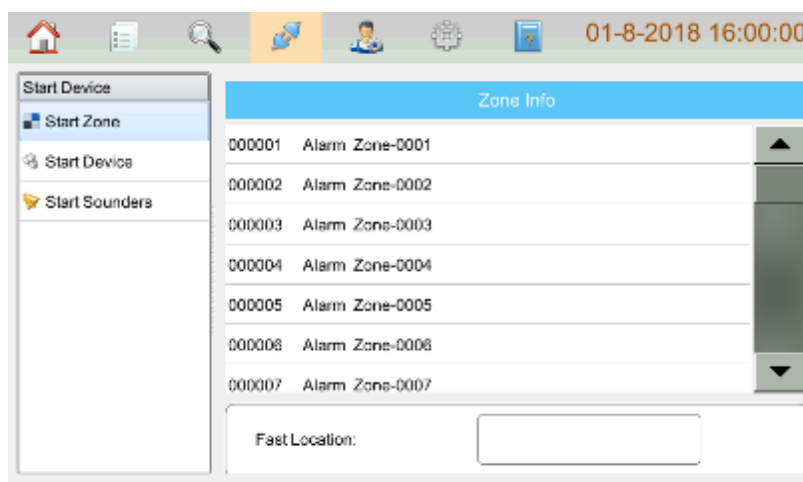

Fig 5.2
- **Start**: clicking this button enters the screen for starting devices as shown below Fig 5.2.